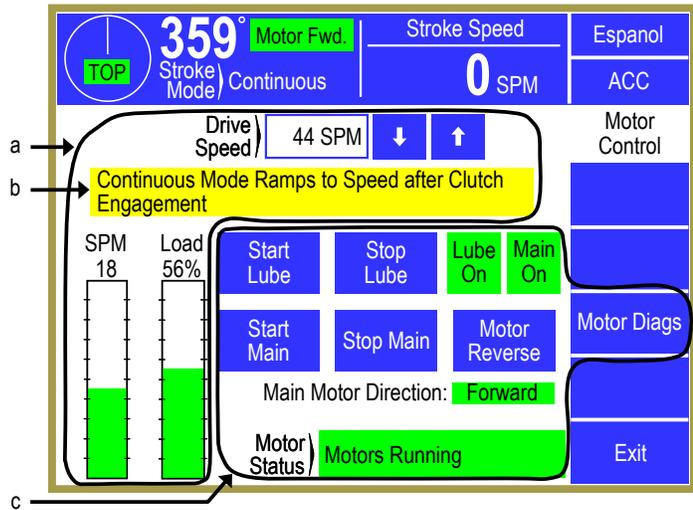

Figure 27: Motor Control Screen
**NOTE:** Not all the information shown in Figure 27 will appear on all controls. The area indicated by “a” in Figure 27 will only appear if the optional 5100-3B Analog I/O board is installed. Likewise, the area indicated by “c” will only appear if the control is set up to start the lube and/or main motor through the screen.
To change the drive speed, touch the blue bordered Drive Speed parameter as shown in Figure 27 or use the up and down arrow softkeys to increment and decrement the value. When using the arrow keys, the value will continue to increment or decrement the value for as long as they are held, or until a speed limit has been reached. The new speed value will be sent (as an analog signal) to the motor drive.
The stroking speed can be set over the entire speed range of the press (determined by the configuration), but the press control can automatically limit the output in certain modes. For example, a press that has a maximum stroking speed of 400 SPM may be configured to limit single stroke mode to less than 250 SPM. In this situation, the operator can enter a speed setting up to 400 SPM in any mode, but the command signal to the drive will go no higher than 250 SPM when Single Stroke mode is selected (i.e. it will clamp at the configured limit). In addition, the press control can be configured to command a fixed speed in Inch and Timed Inch modes. The operator should be aware of how the press is intended (or has been configured) to function in all stroking modes. When needed, messages are displayed on the screen (see “b” in Figure 27) to indicate if the press control is configured for fixed inching speed, a limit has been placed on single stroke modes, or to indicate some other special mode of operation of which the operator may need to be aware.
As shown in Figure 27, both drive speed (SPM) and motor current (% Load) are displayed in numeric and bar graph formats. The SPM bar graph ranges from 0 SPM to the maximum strokes/minute of the press. The % Load bar graph ranges from 0 to 200%.
The screen of Figure 27 (see the area indicated by “c”) shows an example setup of a reversing main motor and a continuous running lube pump motor. The display provides keys to start and stop the main motor, reverse the main motor, and start and stop the lube motor. Indicators are provided to show the on/off status of each motor.
The “Motor Diags” diagnostic screen can be used to view the state of the outputs and inputs used for the motor control function. To get to this screen, press the **Motor Diags** softkey on the Motor Control screen (see Figure 27). This screen (an example is shown as Figure 28) provides more detailed information such as which motor output (forward or reverse) is on, which motor starter is engaged, the state of the flywheel brake output, and the status of the flywheel brake pressure switch.